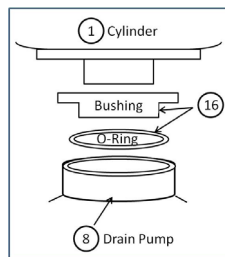

Figure 2b
- Connect the power cables to the electrodes on the cylinder (Figure 2b), inserting the snap-on caps as shown on the yellow label attached to the cylinder. Make sure the connector is inserted correctly (you will hear a “click” when in place).